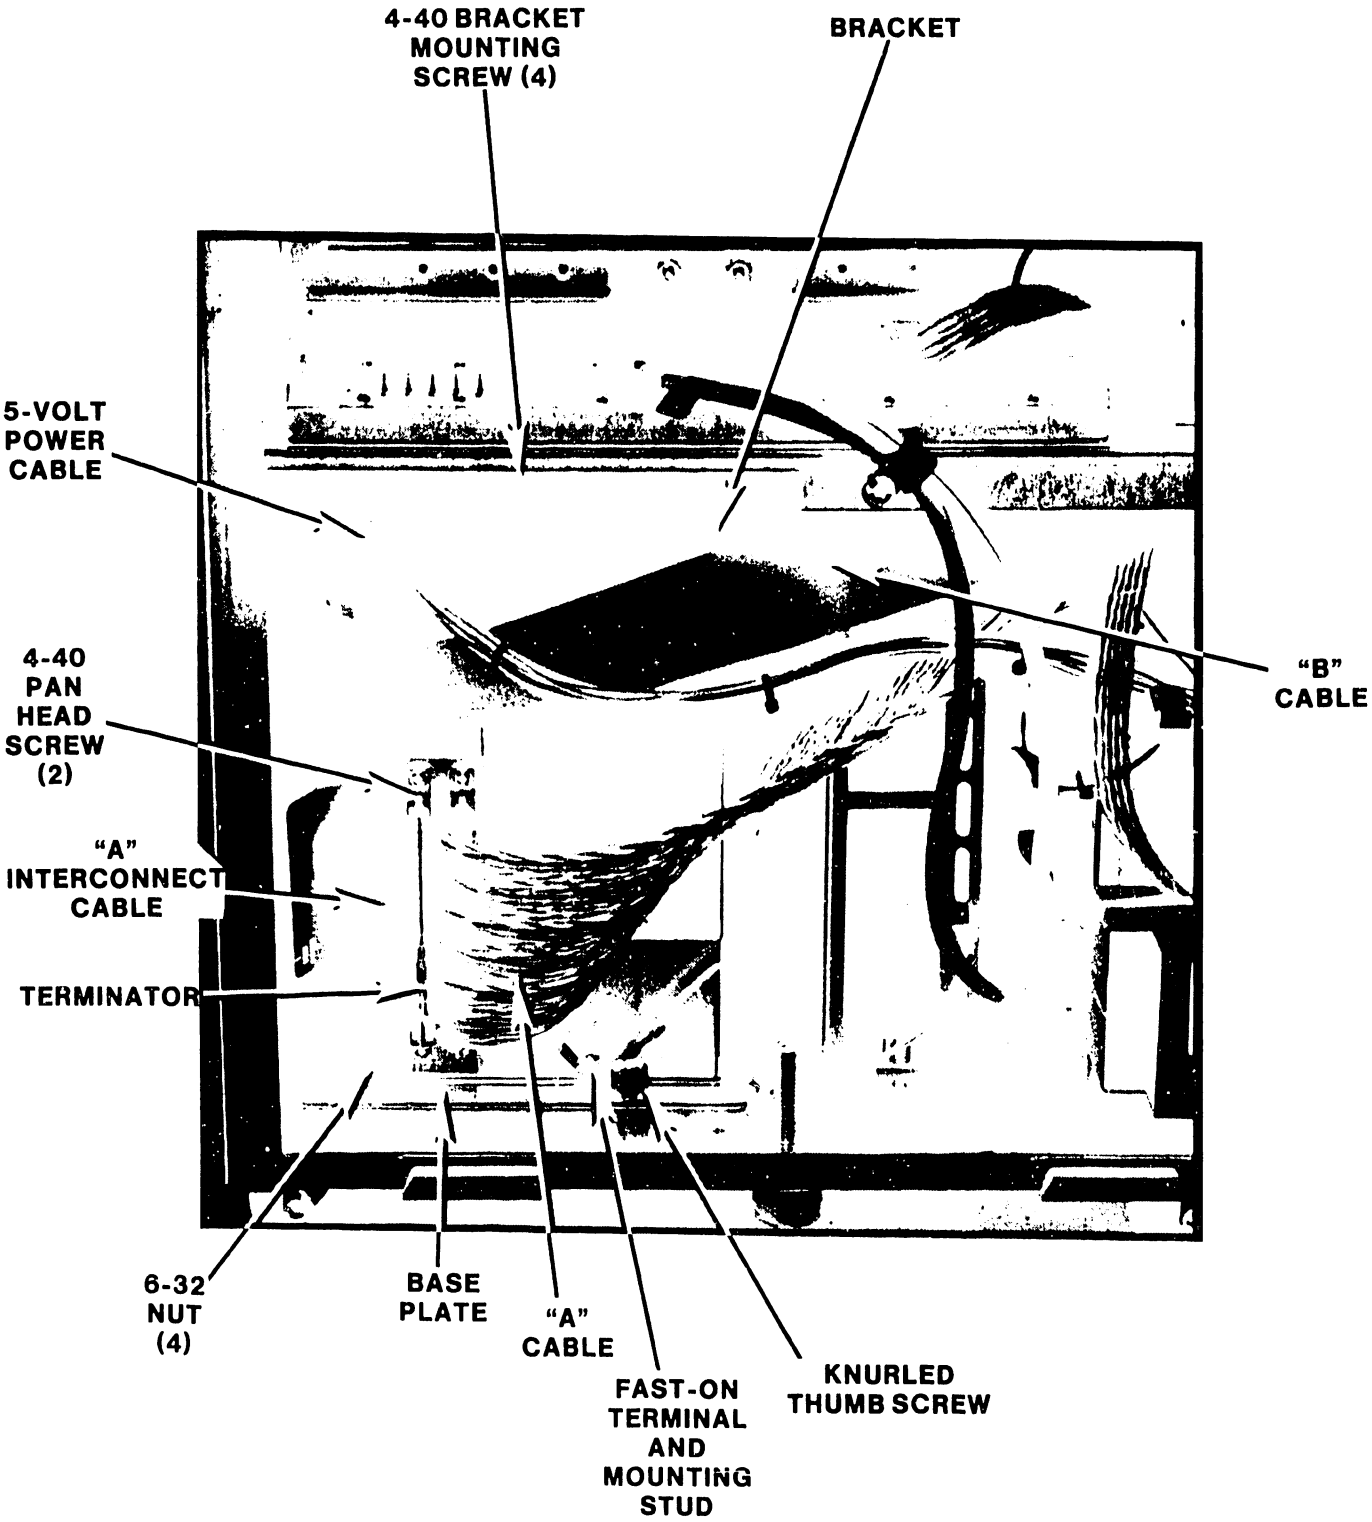

Figure C4-4 147-Megabyte Disk Drive Installed in VS-15 Computer
6. Remove ground lead from "fast-on" terminal (figure C4-4).
9. Disconnect "A" interconnect cable from drive by pulling on white nylon tab located to the left of the terminator shown on figure C4-4.
6. Slide drive into cabinet and position it as shown in figure C4-4.
7. Secure drive using spring-loaded knurled thumbscrew (figure C4-4).
8. Install "Fast-on" terminal (figure C4-4) onto mounting stud.
9. Secure "A" interconnect cable to terminator bracket using 4-40 pan-head screws (figure C4-4).
6. Disengage disk drive from CPU cabinet by loosening knurled thumbscrew (figure C4-4).
8. Remove "A" cable from disk drive (figure C4-4).